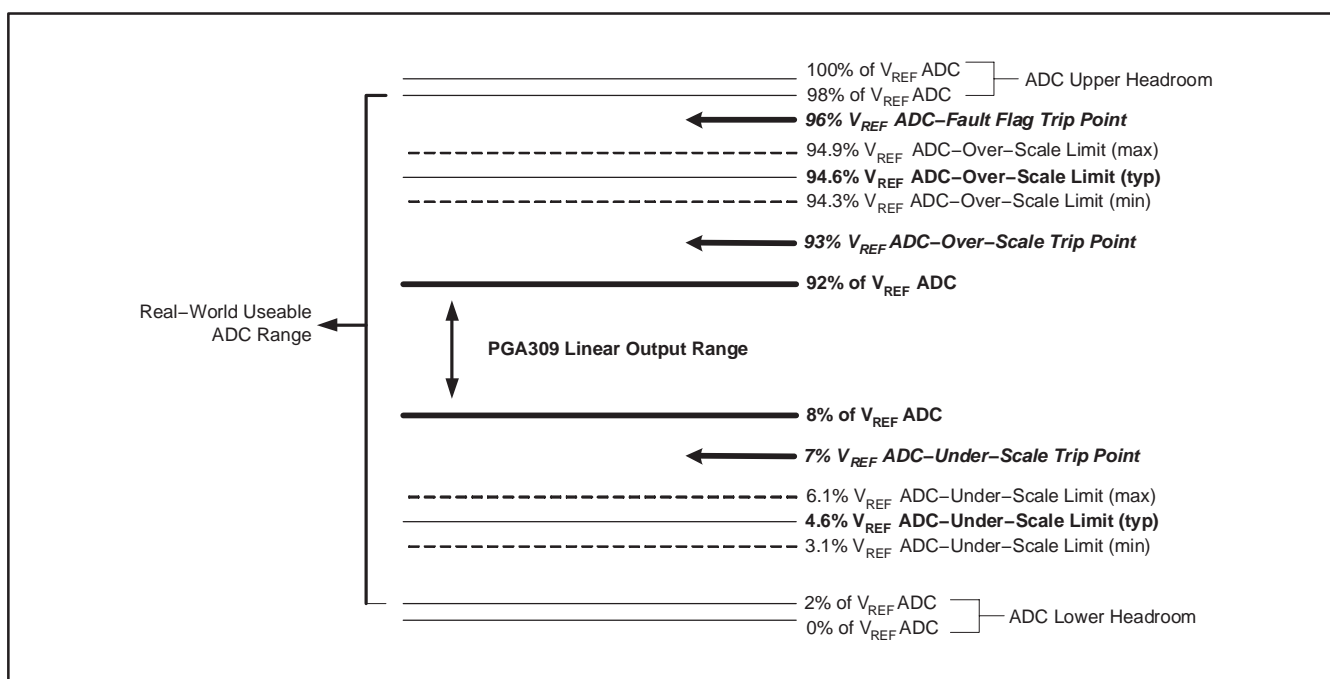

Figure 23. System ADC Range Budget for Over-Scale, Under-Scale, and Linear Output
4. From the over-scale and under-scale min and max trip point calculations, choose the best selection that will allow for the optimum system ADC range budget (see Figure 23). For this example, the PGA309 is scalable for a linear output of 8% to 92% of the system ADC reference. In addition, we can set reasonable trip points for detecting over-scale limit, under-scale limit, and fault detect.